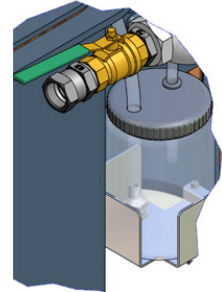

Figure 5
5. Fill the Lube Reservoir (Figure 5) with Pump Lube or suitable diluent. It is not necessary to prime the system.